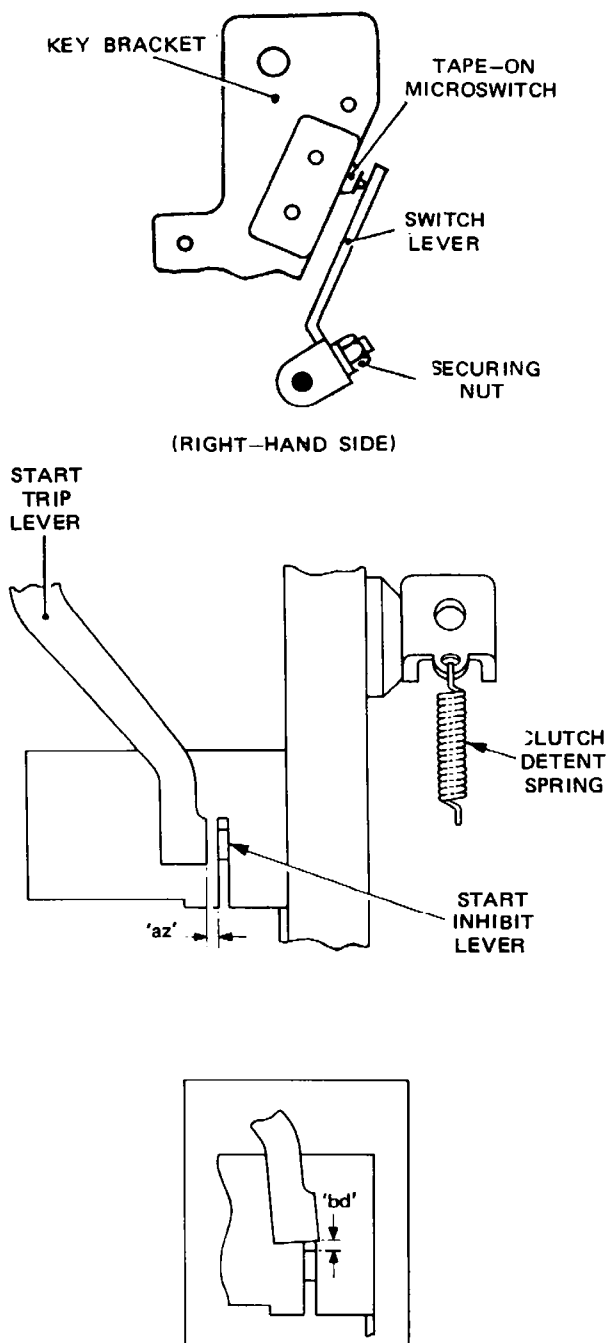

Fig. 4.54 START INHIBIT LEVER CLEARANCES
- 56.2 To adjust, slacken the screw securing the plate rack and move the rack to correct the clearance. Tighten the screw. It may be necessary to slacken temporarily the nut securing the switch lever, Fig. 4.54, to free the shaft.
- 59.1 Set the unit to the stop position, depress the TAPE TRANSMITTER OFF key gently until the TAPE TRANSMITTER ON key is released, and check that the gap between the start trip lever and the start inhibit lever (dimension 'az' of Fig. 4.54) is 0.008–0.012 inch.
- 66.1 Set the unit to the stop condition, gently press the TAPE TRANSMITTER OFF key to release the TAPE TRANSMITTER ON key only, load all-mark tape and, depressing the TAPE TRANSMITTER ON key so that the start trip lever passes over the start inhibit lever, Fig. 4.54, check that the gap between the levers (dimension 'bd' in the inset) is 0.008–0.020 inch.